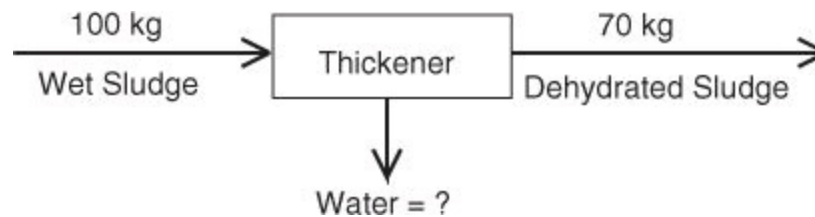

Figure P3.1.21
*****3.1.21.** A thickener in a waste disposal unit of a plant removes water from wet sewage sludge as shown in Figure P3.1.21. How many kilograms of water leave the thickener per 100 kg of wet sludge that enter the thickener? The process is in the steady state.